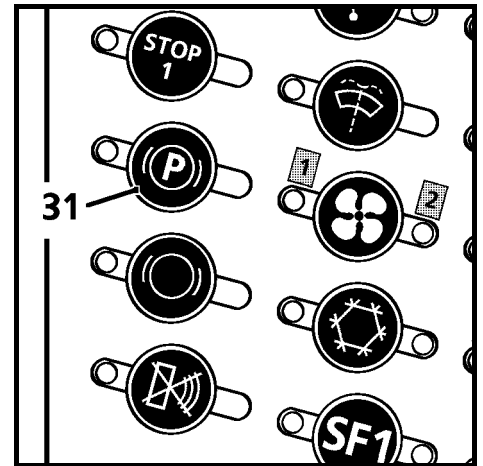

Fig. 23
To stop in difficult terrain push the button (Fig. 23, pos. 31) to “Brake locked” to apply the brakes.